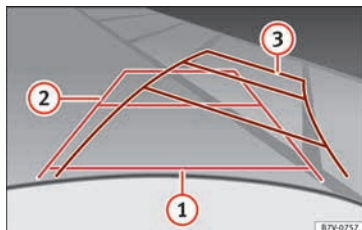

Fig. 217 Display: orientation lines for the parking space behind the vehicle
Meaning of orientation lines displayed on the screen » » Fig. 217. All of the lengths of the orientation lines use a vehicle located on a horizontal surface as reference.
- Reverse slowly and turn the steering wheel so that the yellow orientation lines guide you towards the space » » Fig. 217 ❸.